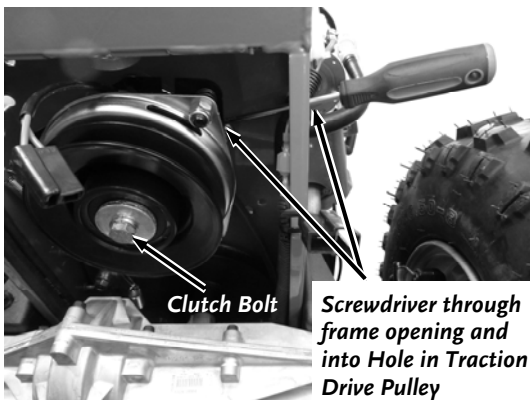

Figure 35
3. Locate the hole in Traction Drive Pulley (**Figure 35 and 36**) on the engine and insert the Phillips head screwdriver through the opening in the Frame and into the hole in the Pulley (**Figure 35**).